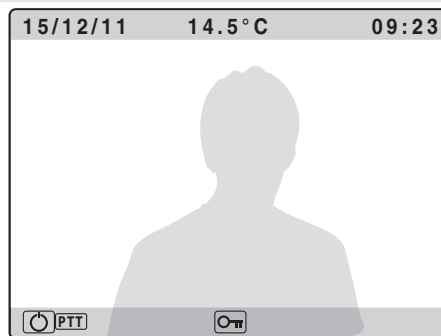

Fig.3a
- To switch from hands free to push to talk mode, keep pressed the until the related LED starts to flash slowly Fig.3a. Keep pressed the button to talk to the visitor (the LED flashes quickly) and release the button (the LED flashes slowly) to listen the visitor;